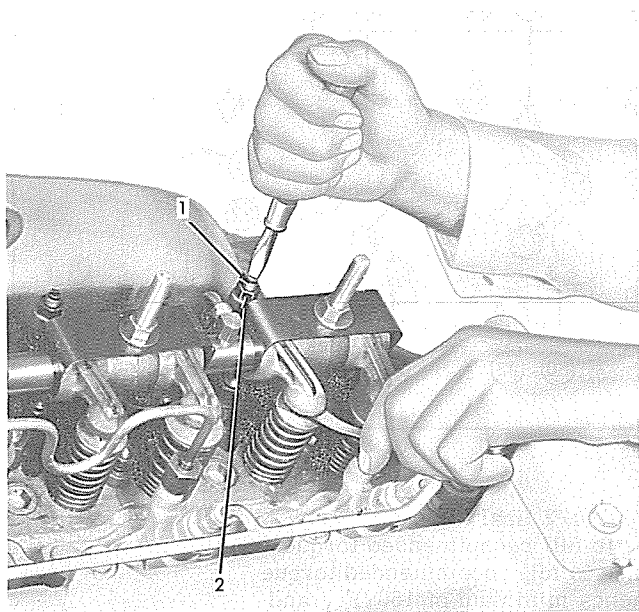

Fig. 11 — Checking and Adjusting Valve Lash
3. To adjust each valve, loosen lock nut on adjusting screw and turn screw clockwise to decrease clearance or counterclockwise to increase clearance as necessary, Fig. 11. When proper clearance is obtained, tighten lock nut and recheck to make certain clearance did not change when lock nut was tightened.